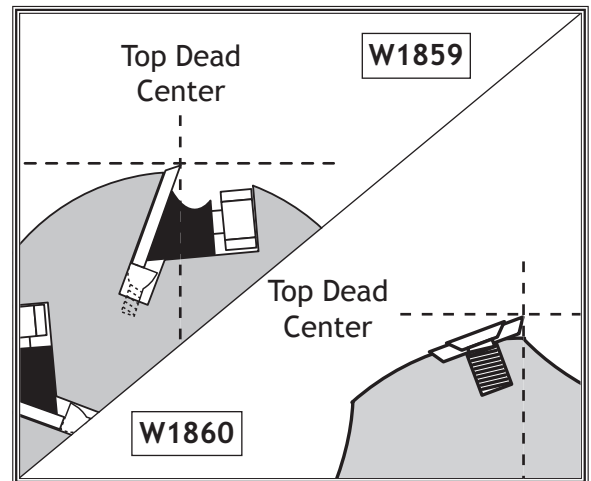

Figure 49. Knife or insert at TDC.
6. Use motor pulley to rotate cutterhead until one knife or insert is at TDC (its highest point during rotation), as shown in **Figure 49**.